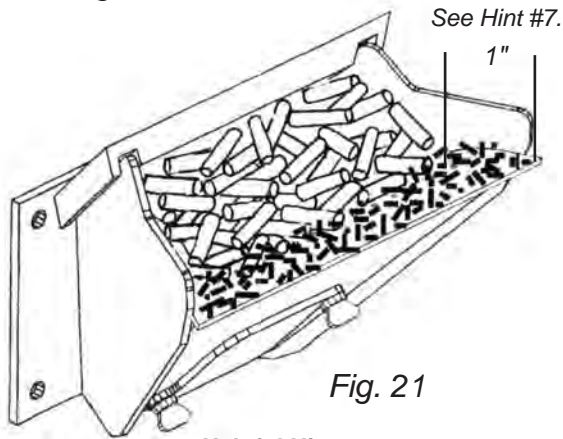

Fig. 21
7. Setting the feed adjuster # for maximum burn: With the unit burning in "AUTO", turn to "Stove Mode" and put the fan on "H". Set the Temperature Dial to #7. Allow the unit to burn for about 30 minutes and check ash on front of burn pot. Fig. 21. If the ash line is larger than 1", turn the feed adjuster from #3 to #4. Allow another 30 minutes of burn time and check again. If, at #6 setting, a 1" or less ash bed is not obtainable, it is not a problem. The 1" ash bed is only at maximum burn rate and at most normal settings the ash bed will be larger.